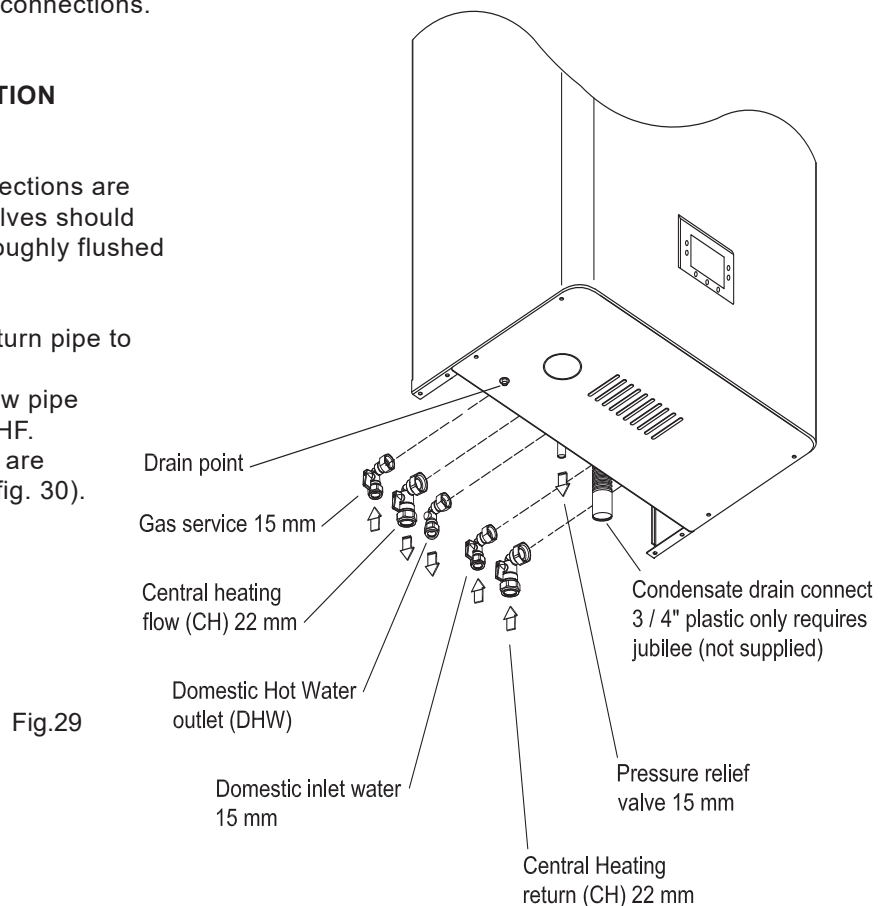

Fig.29
Remove plastic caps from boiler connection and fit valves as per fig. 29 using the washers provided.
5.22 GAS CONNECTION (Fig. 29)
5.23 CENTRAL HEATING CONNECTION (Fig. 29)
5.24 DOMESTIC HOT WATER CONNECTION (Fig. 29)
The condensate drain connection is a flexible 3/4" pipe and is therefore adjustable Fig. 29.